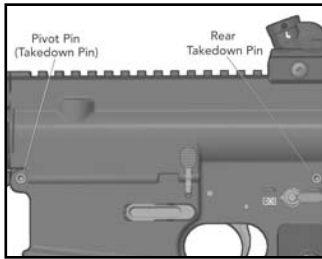

Fig. 35 – Takedown Pins
- b. Insert the small tip of the disassembly tool into the spring loaded detent located in the center of the rear takedown pin. Push the disassembly tool from left to right until the takedown pin reaches its limit of lateral travel (Fig. 35, 36).